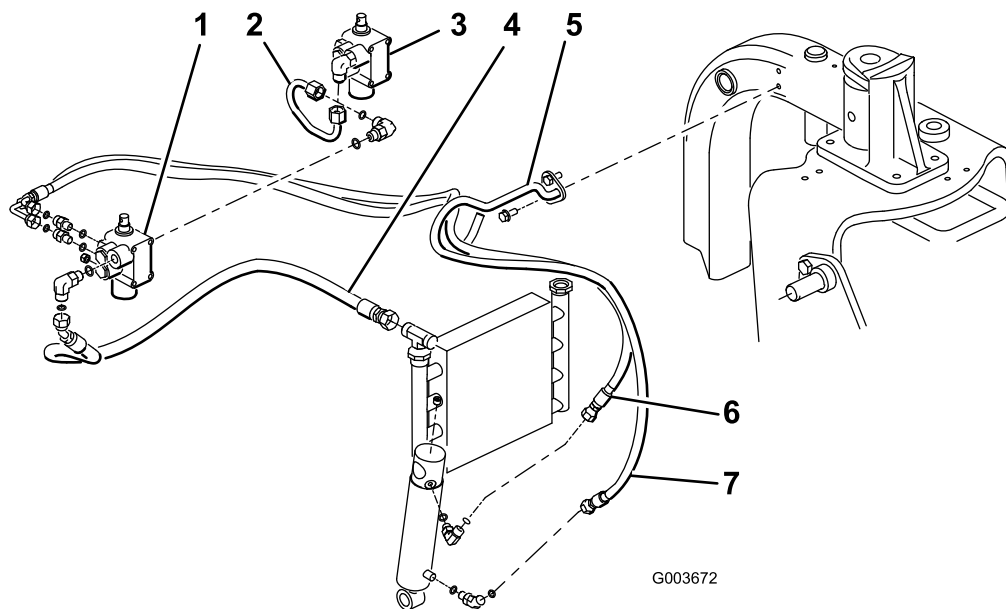

Figure 14
or cap the fitting on the cooler using one of the protective shipping caps removed from the tube assembly, part no. 108-8447 (Figure 14).
right side of the valve and the straight end of the hose to the vacant oil cooler fitting (Figure 14). Refer to Figure 15 and Figure 16 for hose routing.
6. Mount the wire hose holder to the left frame tube with 2 thread forming screws (5/16 x 3/4 inch) (Figure 14).
7. Connect the short 90 degree fitting end of hydraulic hose, part no. 108-8453, to the top straight fitting on the rear of the valve. Route the hose through the wire hose holder and connect the straight end of the hose to the top hydraulic cylinder fitting (Figure 14). Refer to Figure 15 and Figure 16 for hose routing.
8. Connect the long 90 degree fitting end of hydraulic hose, part no. 108-8454, to the bottom straight fitting on the rear of the valve. Route the hose through the wire hose holder and connect the straight end of the hose to the bottom hydraulic cylinder fitting (Figure 14). Refer to Figure 15 and Figure 16 for hose routing. Make sure hoses are routed away from any sharp, hot or moving components.
4. Connect the tube assembly, part no. 108-8447, to the 90 degree fitting on the left side of the new valve and the vacated fitting on the existing lift valve (Figure 14).